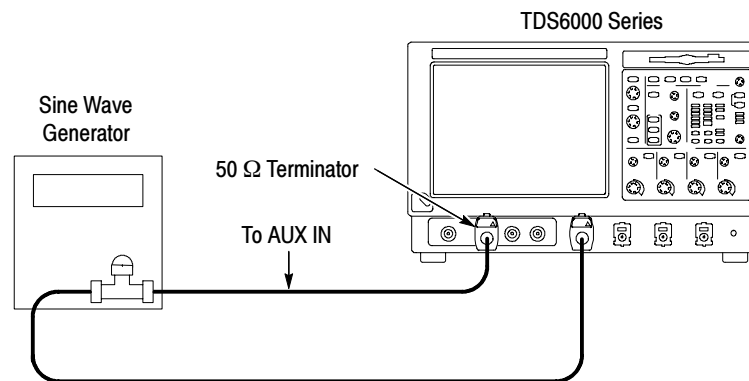

Figure 4-26: Initial test hookup
- Connect the signal output of the generator to a BNC T connector. Connect one output of the T connector to **CH 1** through a 50 Ω precision coaxial cable and an adapter. Connect the other output of the T connector to a 50 Ω terminator. Connect the terminator to the **AUX INPUT**. See Figure 4-26.